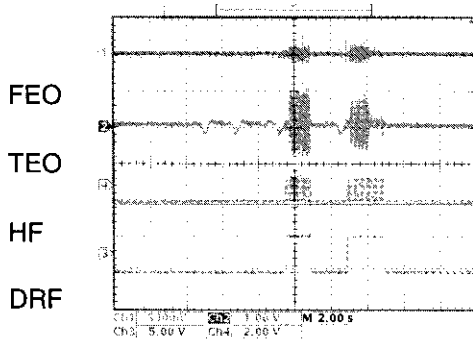

Fig. 2 DISC discrimination, adjustment (Case of CD-RW)
(1) DISC discrimination, adjustment
- * "06 Adj" is displayed, and discrimination of DISC size 8 cm/12 cm, discrimination of DISC reflectance (CD, CD-R/CD-RW), adjustment of focus, tracking offset, and EF balance will be performed. (Adjusted values are not displayed: Refer to Fig. 2, 3)